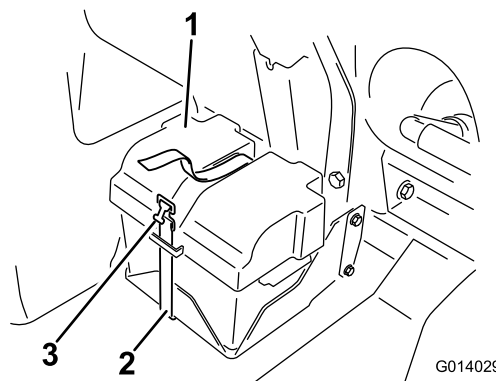

Figure 126
2. Remove the battery cover and disconnect the negative (black) ground cable from the battery post (Figure 126).
4. Install the battery cover and secure it with the strap that you removed previously (Figure 126).